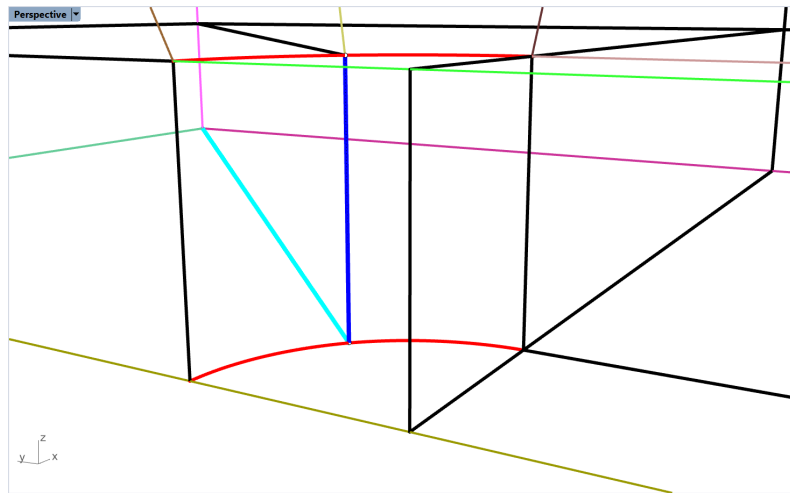
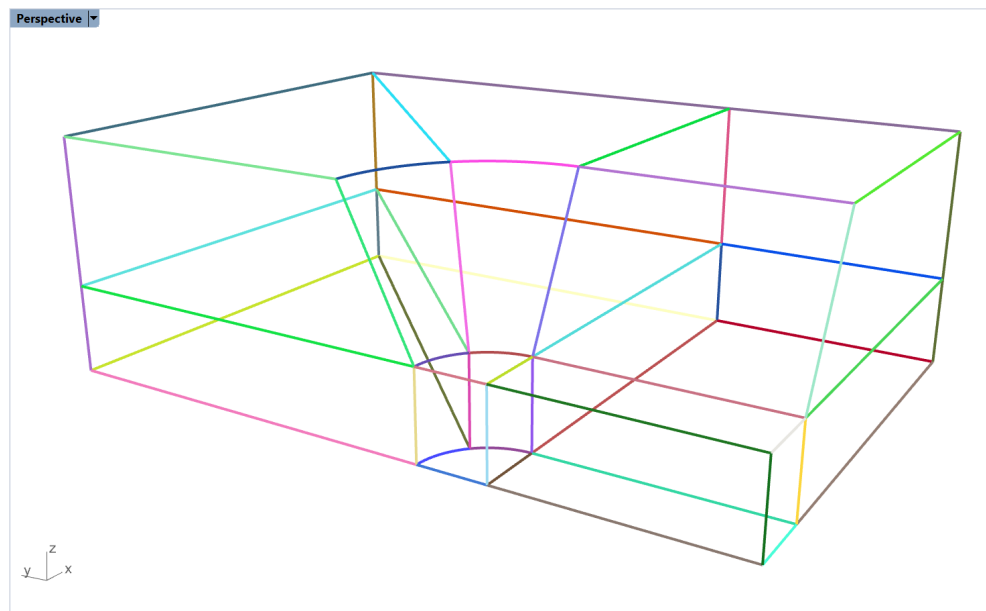

Figure 41: Connecting the middle ends of the arcs (blue lines).
Figure 42: Model wireframe ready to be used for block creation.
12. Connect the middle nodes as shown in Figure 41 with the dark blue line. Connect the bottom end of the dark blue line to the opposite corner as shown in Figure 41 with the light blue line.
13. Split all intersecting lines (mostly those from the reference model) by using the **_Split** command. For this, first select the line to split and then select a line that intersects or connects to it. For example, the tan line at the bottom of Figure 41 can be split in three pieces by the connecting black lines. The resulting wireframe should contain 56 curves (**Ctrl+A** and check the number of selected objects) and is the basis for creating solid blocks (Figure 42).